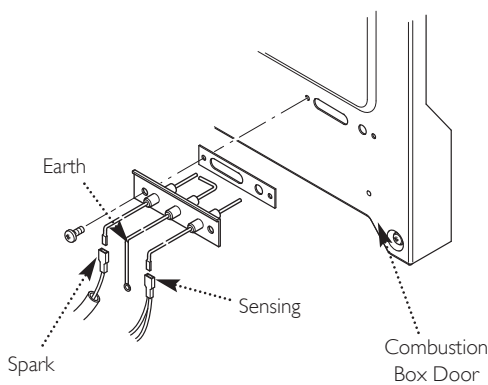

Fig. 51
15.6 Spark and Sensing Electrodes (Fig. 51)